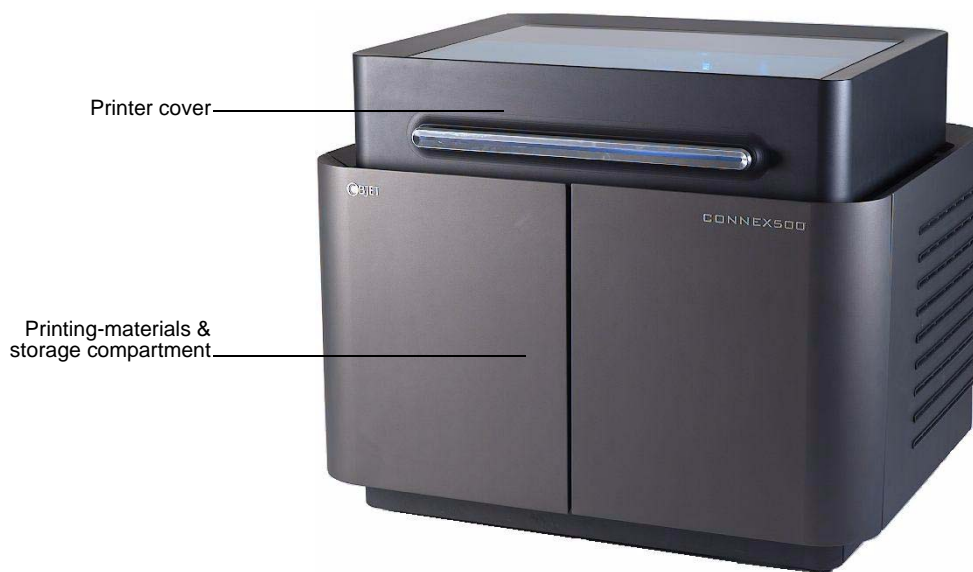

Figure 6-1: The Connex500 3D Printer
1. On the front of the printer (see figure 6-1), pull open the doors of the storage compartment.